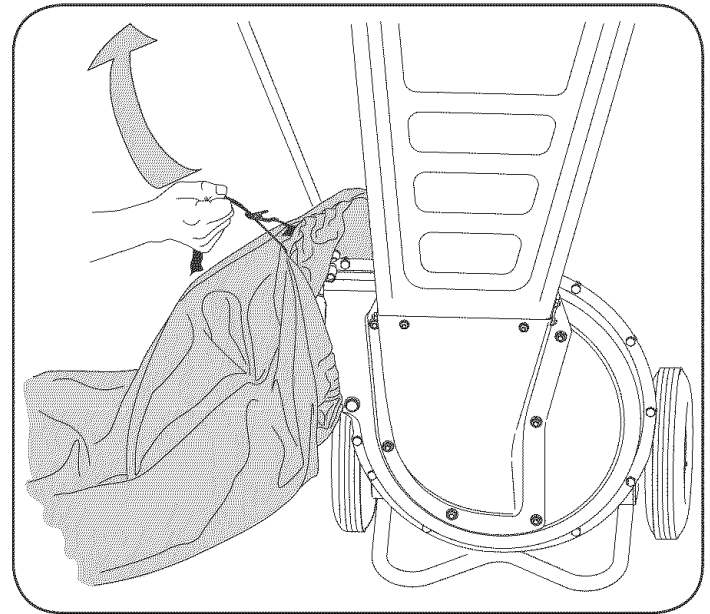

Figure 1
- c. Pull on the drawstrap until the bag is tight around chute deflector opening. See Figure 1.